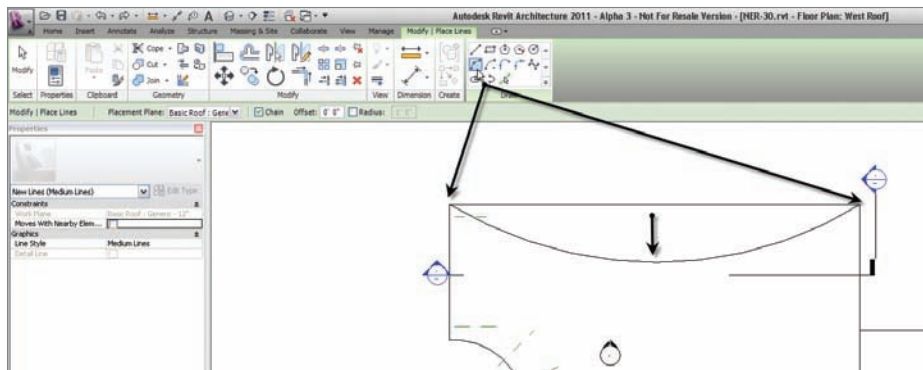

FIGURE 12.86 Drawing an 80'-0" radius arc
- On the Draw panel, click the Start-End-Radius Arc button, as shown in Figure 12.86.
- Draw an arc from the two endpoints shown in Figure 12.86. Make the radius 80'-0".